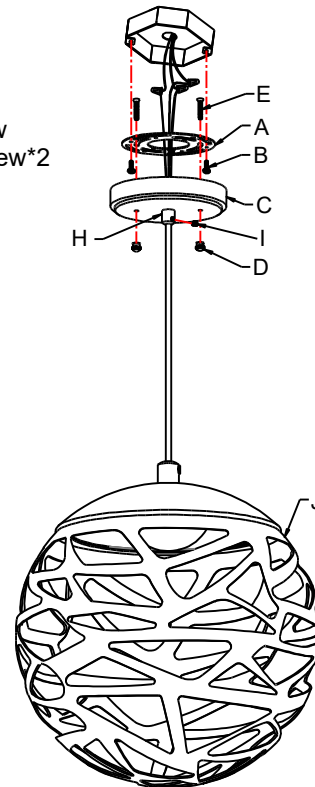

Fig. 2
## CONNECTING THE WIRES (Fig. 2)
8. Connect the electrical wires as shown in Fig. 2, making sure that all wire connectors are secured. If your outlet has a ground wire (green or bare copper), connect the fixture's ground wire to it. Otherwise, connect the fixture's ground wire directly to the circular strap (A) using the green screw provided.